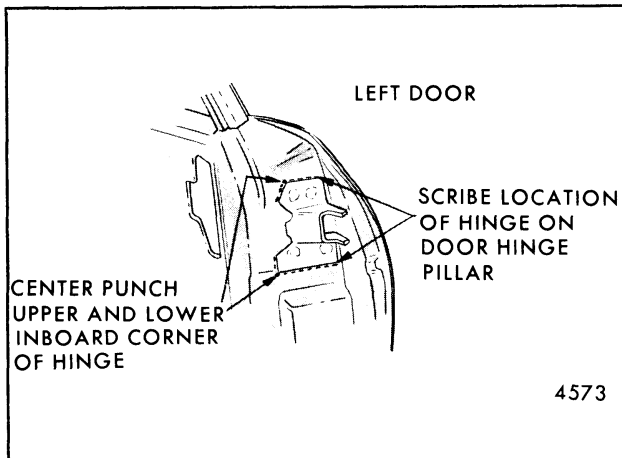

Fig. 5-61-Locating Hinge on Door Hinge Pillar
3. Center punch and scribe location of hinge on door hinge pillar (refer to Fig. 5-61).